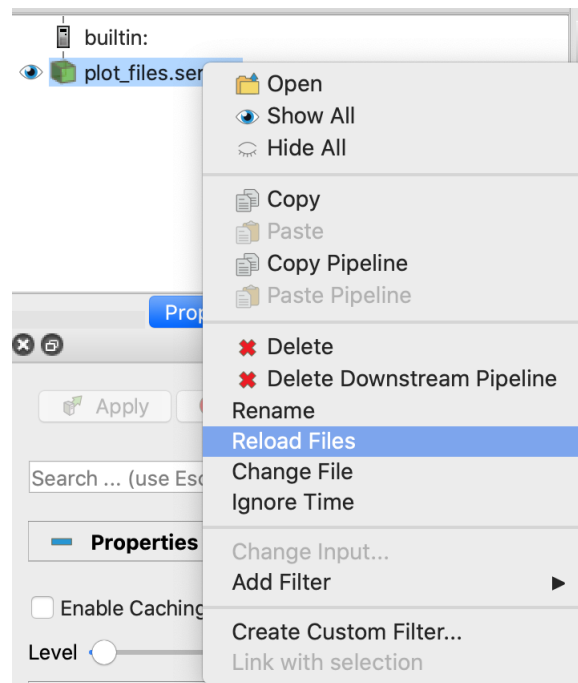
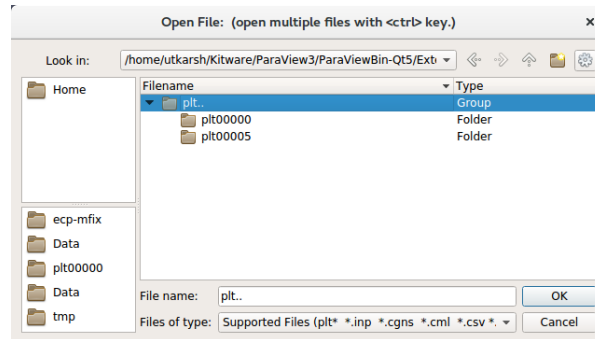

Fig. 18.2: : File dialog in ParaView showing how to reload a series file
Fig. 18.3: : File dialog in ParaView showing a group of plotfile directories selected
2. Navigate to your run directory, and select the fluid or particle plotfile. Note that you can either open single or multiple plotfiles at once by selecting them one by one or select a file ensemble, labeled as `plt..` and indicated as a Group in the “Type” column of the file explorer (see Fig. 18.3). In the latter case, ParaView will load the plotfiles as a time series. ParaView will ask you about the file type – choose “AMReX/BoxLib Grid Reader” or
Open ParaView, and then select “File” → “Open”. In the “Files of Type” dropdown menu (see Fig. 18.3) choose the option All Files (\*). Then choose `plot_files.series` and click “OK”. Now the plotfiles have been loaded as a Group as in Step 2 of section ParaView. Now, you can follow the steps 2 to 7 in the section ParaView to plot. As new plotfiles are generated, just re-run the bash script to re-generate the `plot_files.series` file, right-click on `plot_files.series` in the ParaView menu, and click on “Reload Files” (see Fig. 18.2).
1. Run ParaView v5.7, and select “File” → “Open”. You will see a combined “plt..” group. Click on “+” to expand the group, if you want to inspect the files in the group. You can select an individual plotfile directory or select a group of directories to read them as a time series, as shown in Fig. 18.3, and click “OK”. ParaView will ask you about the file type – choose “AMReX/BoxLib Particles Reader”.